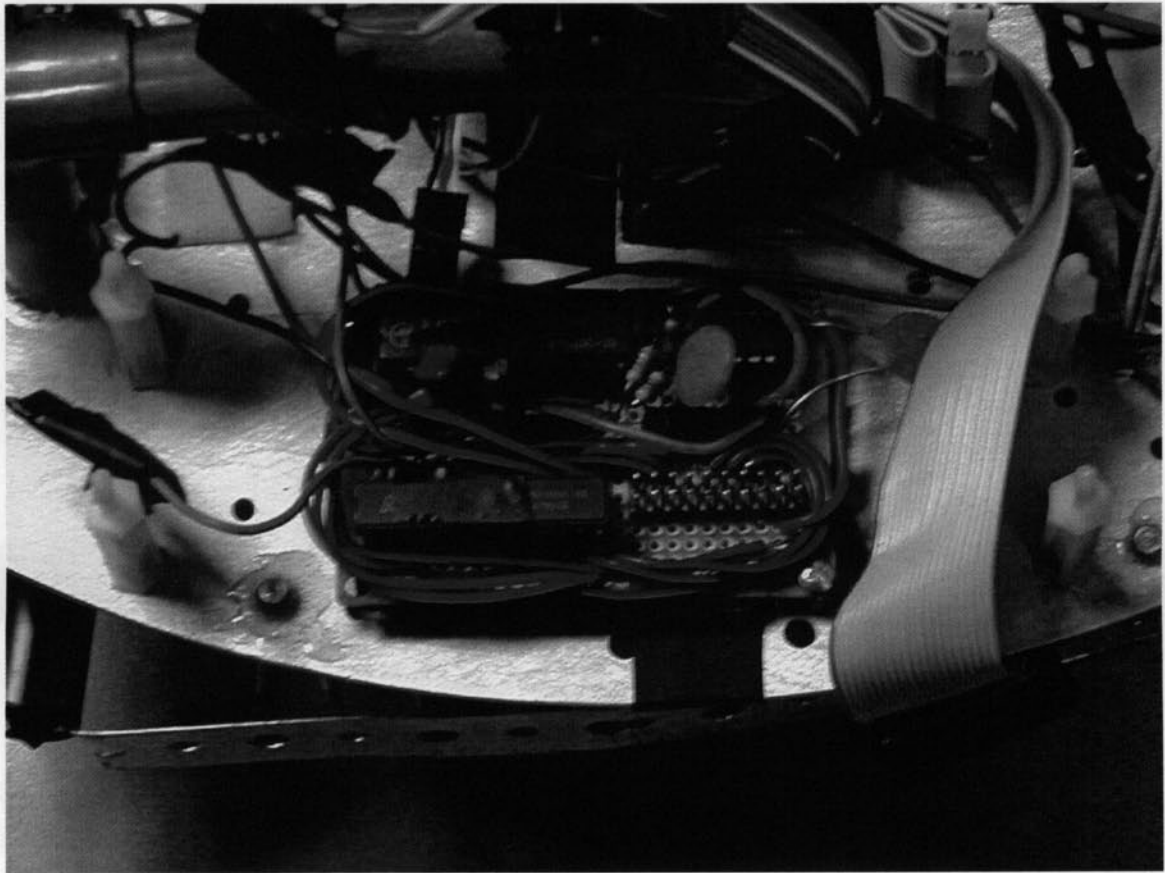

Fig. 11 – Arm Frequency Generator Board
- Connect the green wire labeled “U/D” coming from Pin 26 on Altera chip #1 to the yellow wire on the up/down servo connector. See Fig. 11.